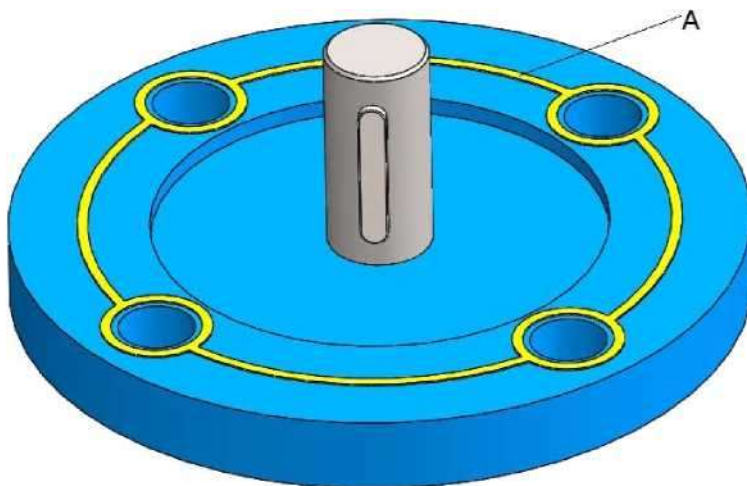

Figure 7 Schematic Diagram of Flange Gluing
4. Disconnect the actuator from the input end of the gearbox, ensuring that the position adjusted in step 3 remains unchanged. Apply a bead of silicone sealant around the mounting surface of the gearbox input flange and each bolt hole. As shown in example "A" in Figure 7, ensure that the adhesive is evenly applied and not disconnected.
5. Disconnect the gearbox (actuator+gearbox) from the valve input end, ensuring that the position adjusted in step 4 remains unchanged. Apply a bead of silicone sealant around the installation surface of the valve flange and each bolt hole. As shown in example "A" in Figure 7, ensure that the adhesive is evenly applied and not disconnected.
4. Apply a bead of silicone sealant around the installation surface of the valve flange and each bolt hole. As shown in example "A" in Figure 7, ensure that the adhesive is evenly applied and not disconnected.